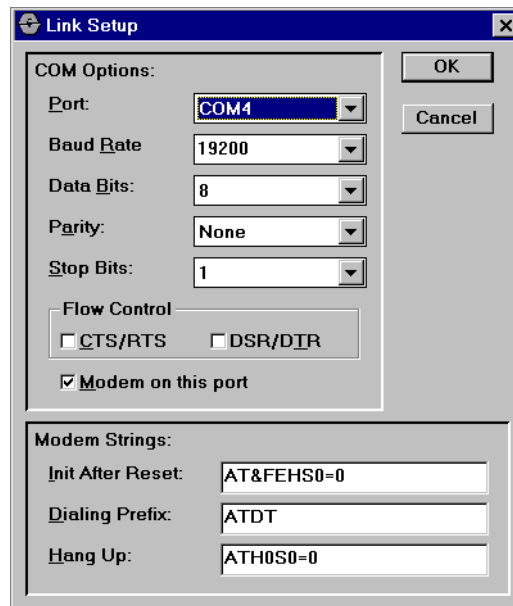

Figure 57: Link Setup Box
2. Select **Link Setup** to open the Link Setup dialog box (*Figure 57*).